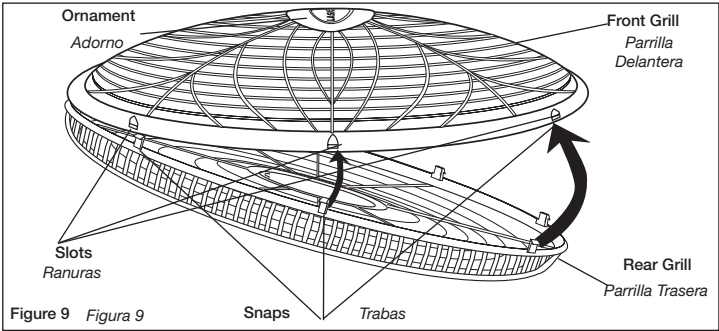

Figure 9: Front Grill assembly.
11. With fan head in upright position, align Ornament of Front Grill so it is horizontal and right side up. By starting with the top of the grill and working down, insert Snaps on Rear Grill through Slots in Front Grill. (Figure 9)